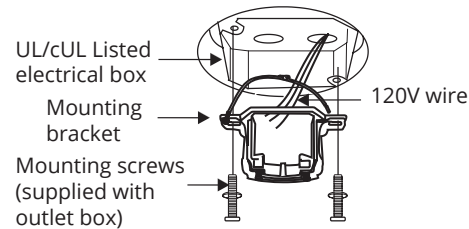

FIGURE 7
3. Pass the 120-volt supply wires through the center hole in the ceiling mounting bracket as shown in (Fig. 7)
4. Secure the mounting bracket to the ceiling outlet box with the screws and washers provided with your outlet box. (Fig. 7)